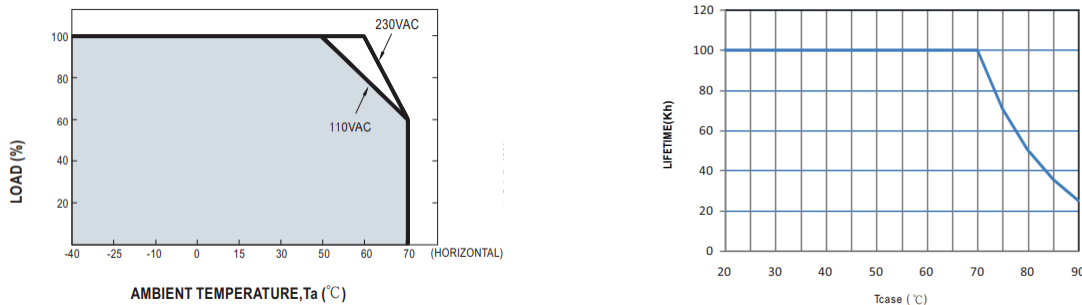

Figure 8: Performance and lifetime dependence of drivers at different temperatures
b. Ambient and Case Temperature: It is important to note the temperature ratings if the PSU is going to be used in extreme temperature conditions as the load % as well as the driver lifetime can vary depending on temperature. For example, in Figure 8, the performance characteristics for a Meanwell driver vary depending on the input wall voltage. The lifetime drops to 50% of the value when case temperature is increased to 80 deg. C.